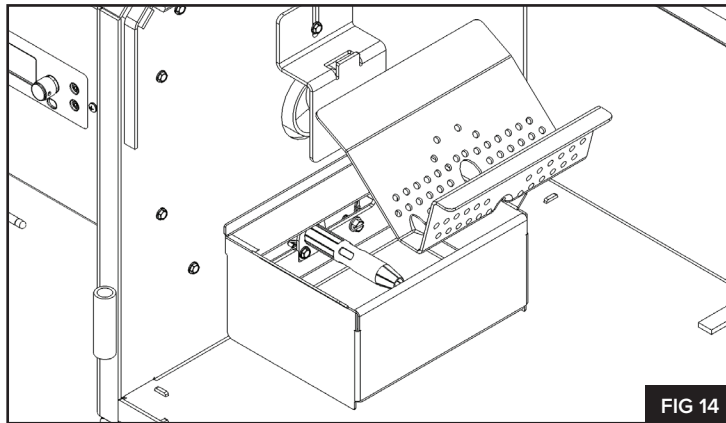

FIG 14
3. Remove the burn grate from the firebox **(FIG 14)**. Inspect and clean thoroughly. Make certain that the combustion holes in the burn grate and the igniter tube in the firebox are free of debris or ash build up. Visually inspect the air way between the combustion fan and the firebox to be certain that it is free and clear of ash and debris (a shop vacuum works well for ash and debris removal).